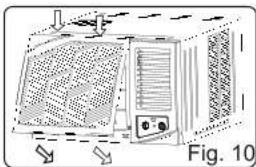

Fig. 10
- Hang the front panel on the frame's buckle, then press the front panel into the frame's slot until you hear a click (See Fig.10).